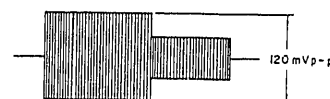

Fig. 4-103
- 1) Record Chroma Level Adjustment (Figs. 4-103, 4-151)